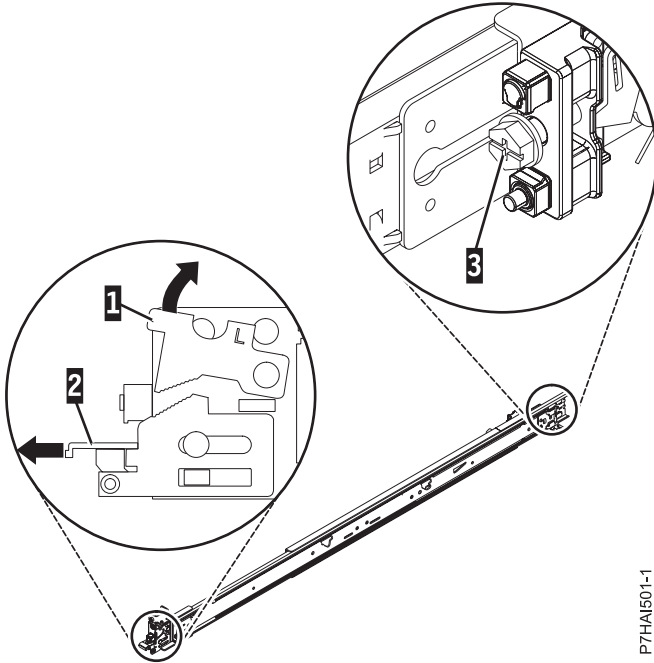

Figure 3. Opening the front latch and removing the rear screw
2. Push up on the front locking tab **(1)**, and pull out the front latch **(2)** at the front of the rail. Then remove the screw from the rear of the rail **(3)**, as shown in Figure 3 on page 6.